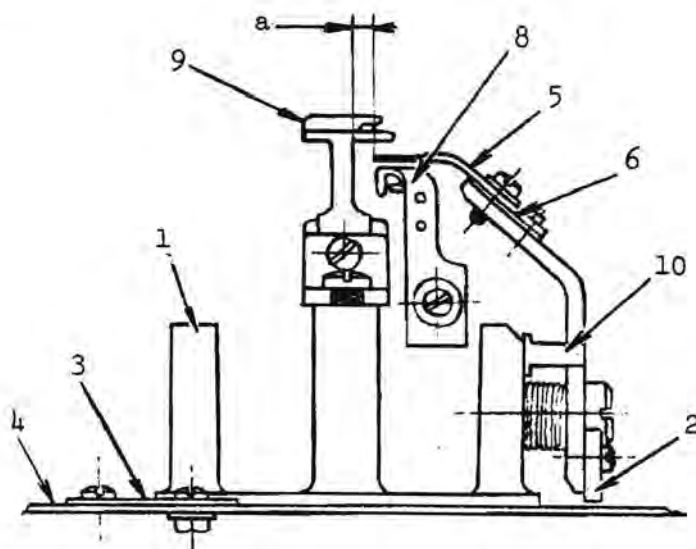

Fig. 2
(See Fig. 2)
When making the above adjustment, the clearance between the underside of the cutting blade (5) and the top surface of the loop retainer (right) (8) must be held to a minimum and also adequate clearance be provided between the top surface of the cutting blade and underside of the throat plate (9). (Fig. 2)
The clearance between left edge of cutting blade (5) and right side of throat plate post (9, Fig. 2) should be set to dimensions shown in the following chart.